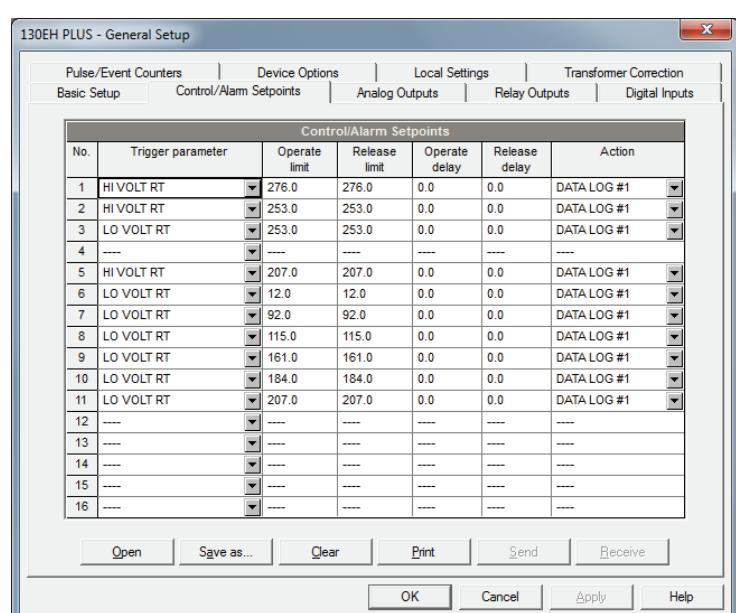

Figure 1 : Setpoints Configuration (PAS Software Screenshot)
For sag/swell/interruption detection, several set-points should be defined (see Figure 1):
3. Set-points were programmed as described above and shown in Figure 1